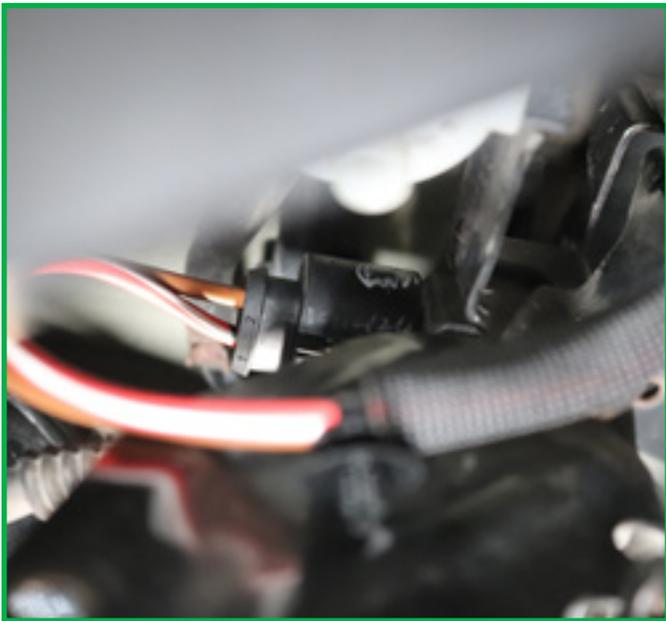

FIGURE 15
4. Reconnect the hose using the hose clamp. (Figure 15)